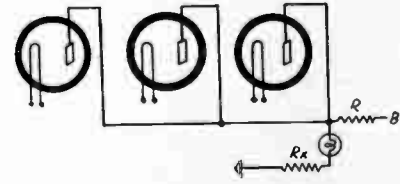

FIG. 2
Fig. 2 shows the series resistor R, the lamp and the limiting resistor Rx, which may be inserted to hold the illumination low. Assuming that 250 volts or so are present at the left-hand side of R, and the lamp is of the 110-volt type, the resistance Rx normally would be more than 100,000 ohms, and the excess would depend on the type of lamp, the voltage rating and the
If the effect in the receiver circuits is such as to cause the modulation to be upward with lamp across the resistor, then the Fig. 2 circuit could be used, with this change, that the bottom connection of Rx, instead of going to grounded B minus, goes to the B plus lead. The same reason exists for including Rx, to keep the minimum illumination low. It would still be sufficient to illuminate a dial scale, if that scale is not opaque, or, if translucent, is not too "thick." A transparent scale would be somewhat better.
**FIG. 2.** Typical rectification characteristics of the diode portion of the 1A6, when the tube is connected as a diode-tetrode, are shown in Fig. 2. Curves A and B compare the difference in rectification efficiencies. Curve A is the current-voltage curve of the diode portion with the No. 1 grid as anode. Curve B represents grid No. 2 used as diode anode, grid No. 1 connected to filament. Fig. 3 shows typical detector characteristics of the 1A6 diode portion as the result of applying an r-f input modulated 30 per cent.
The construction of the 1A6 tube is such that in diode-tetrode service the No. 1 grid (oscillator-grid) may be used as a single diode anode. The No. 2 grid (anode-grid) may be tied to the filament to provide a slight shielding effect between the diode and tetrode elements. Conceivably, the No. 2 grid could be used as another diode anode to provide full-wave rectification but such use would be unsatisfactory. Grids Nos. 3 and 5 (screen grid) act effectively to shield electrostatically the control grid (No. 4) from the No. 1 grid. The plate serves its usual purpose as a part of the tetrode portion of the tube. This portion operates as a screen grid audio amplifier, audio voltage being supplied to its control grid by the diode. Used in this manner, the rectification efficiency of the diode approaches that of the diodes in such tubes as the 55, 2B7, and 75. Fig. 2, curve A, is the current-voltage curve